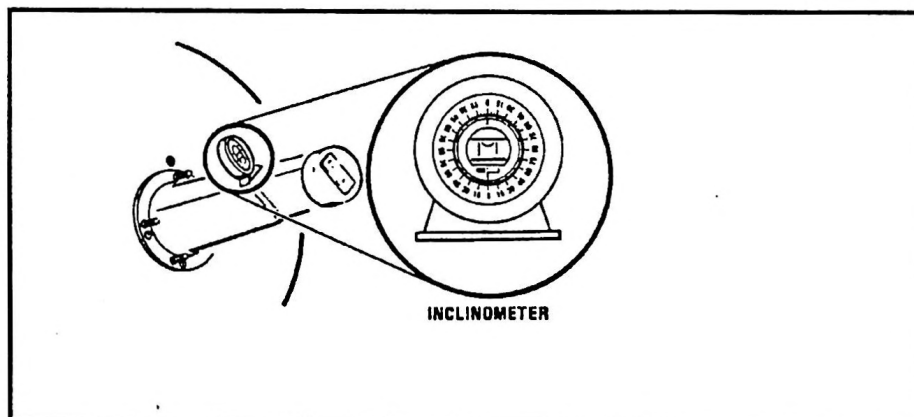

Figure 4-10. Inclinometer on Waveguide
7. Set the inclinometer across the narrow side of the waveguide and verify that it is parallel to the ground (0- to 5-degree reading). See Figure 4-10. If the inclinometer indicates that the waveguide/LNC is tilted left or right, remove the waveguide/LNC and rotate it one hole clockwise or counterclockwise, depending on the original inclinometer indication, and reinstall. Check the reassembled waveguide position with the inclinometer. Repeat this procedure, as necessary, until the waveguide/LNC assembly is installed as near parallel to ground as possible.